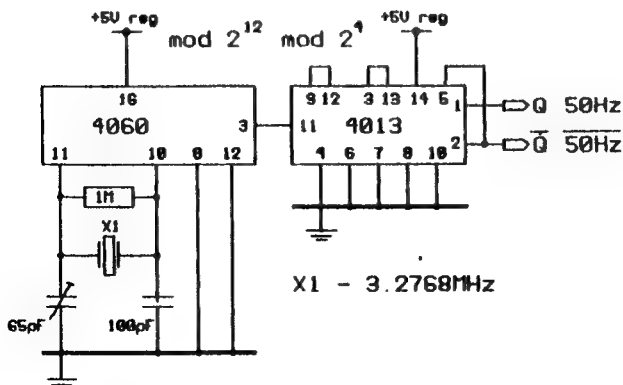

FIG. 3 - TIMING
**TIMING** (fig. 3). Each "cycle" is of 20 ms duration (1/50s). Pulses are counted during the first 10ms, the "count period", at the end of which Q goes "high", the counting is terminated and the display is "enabled". At the end of a further 10ms, the "display period", the system is "reset" and the cycle is repeated. The positive reset pulses are generated every 20ms by differentiating the complementary output with C1/R1. D-1 "clamps" the negative pulses.